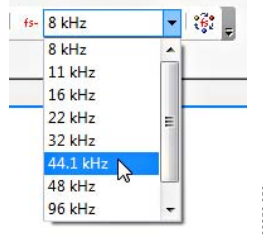

Figure 50. Sample Rate Menu
1. Select a new sample rate from the menu in the toolbar (see Figure 50).